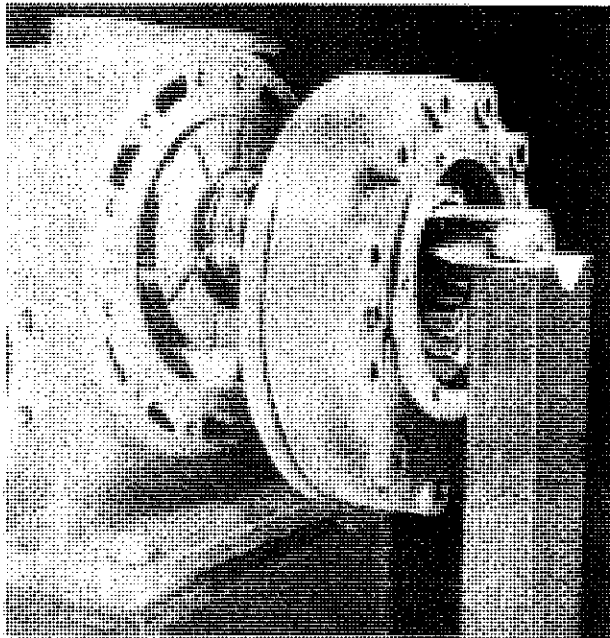

FIG. 12 – Shaft support booster unit
- **NOTE:** Booster units require removal of seal and support for the shaft as illustrated on Figure 12.